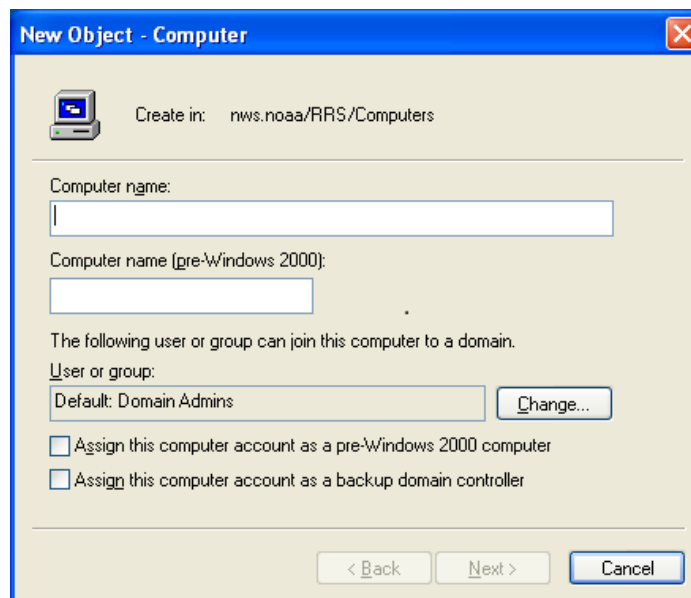

Figure B-5: New Object - Computer Window
- Navigate to the nws.noaa/RRS/Computers security group (Figure B-5). If the nws.noaa/RRS folder is not accessible, right-click the region domain name, select change domain, type **nws.noaa**, and then click **OK**.
- Select **Action, New** and **Computer** from the banner menu to open the *New Object – Computer* window (Figure B-5).